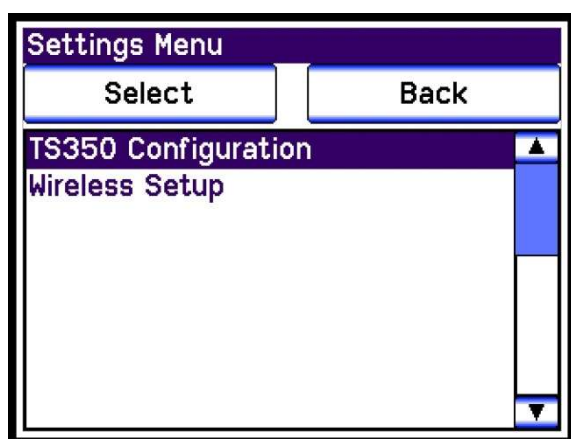

Figure 28
- Highlight **Wireless Setup** (**Figure 28**)